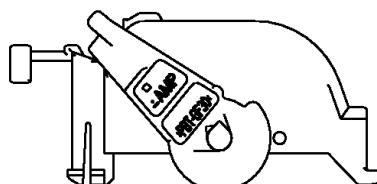

Fig.16
NOTE Be aware Lever position. The operation should be done with same Lever position as shipping condition. See Fig. 16 for Lever shipping condition.
- (1) Confirm Lever is in final lock (in shipping condition from Tyco) condition. (See Fig.16)
- (2) Release latch at the tip of Lever Assembly Lock at wire taking out side with specified screw driver being inserted in the hole and pressing. And then take out Lever Assembly after releasing all latching at wire taking out area by pressing the lock to inside.